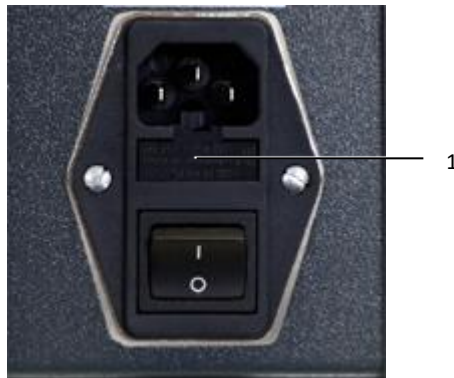

Fig. 19: Opening the fuse box
- Lever the fuse box (fig. 19, item 1) with a flat screwdriver from the mains filter unit.